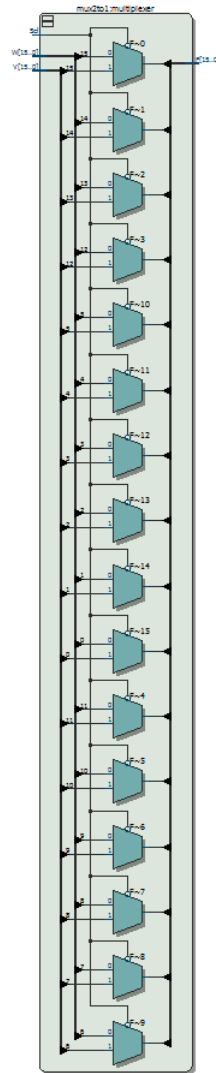

Figure 31: The multiplexer subcircuit.
- Details of subcircuits can be seen by clicking on the box that represents a subcircuit. Select the Selection Tool from the toolbar (near the Zoom Tool), and double-click on the *mux2to1* box to obtain the image in Figure 31. It shows the multiplexers used to choose either the *Areg* or *Z* vector as one of the inputs to the adder, under control of the *Sel* signal. Observe that the multiplexer data inputs are labeled as specified in the VHDL code for the *mux2to1* entity in part *b* of Figure 13, namely as *V* and *W* rather than *Areg* and *Z*.